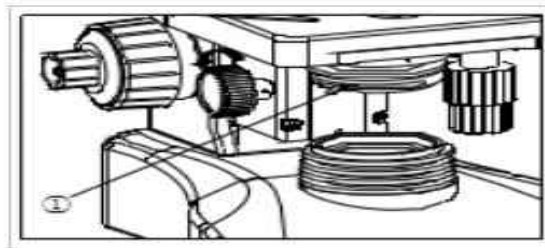

Fig.20
3.3.4 Condenser Adjustment (Fig.20)
3.3.5 Aperture Iris Diaphragm Adjustment (Fig.20,21)